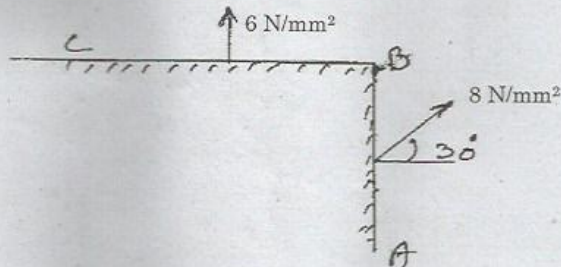

Fig. Q. 16(a)
16. (a) The intensity of resultant stress on a plane AB (Fig.Q.16(a)) at a point in a material under stress is  $8 \text{ N/mm}^2$  and it is inclined at  $30^\circ$  to the normal to that plane. The normal component of stress on another plane BC at right angles to plane AB is  $6 \text{ N/mm}^2$ . Determine the following :
- (iii) The maximum shear stresses. (15)